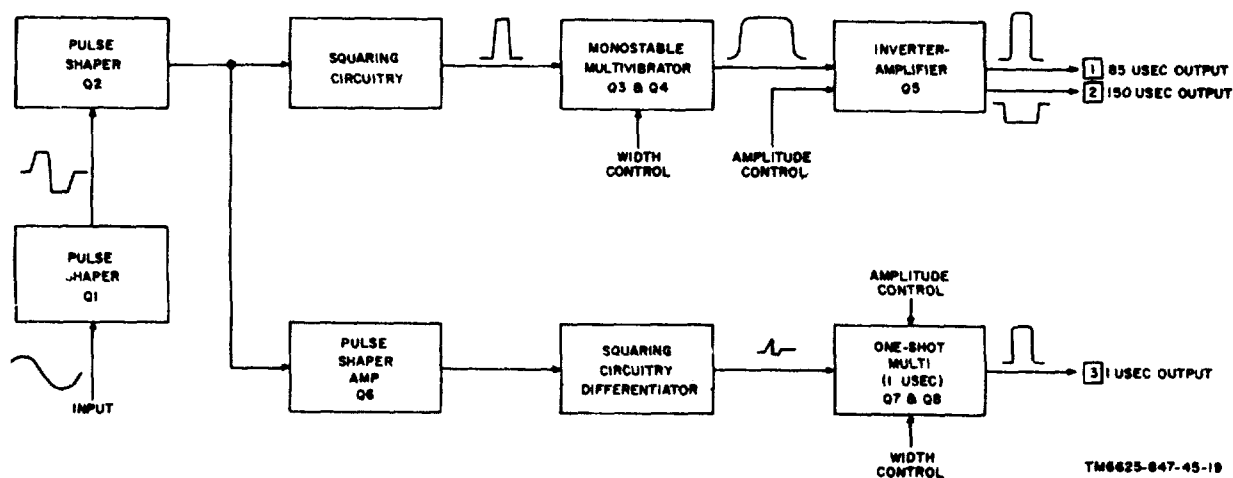

Figure 1-17. Test set pulse generator assembly block diagram.
- (1) *Troubleshooting chart.* The troubleshooting charts, paragraphs 2-18 through 2-23, list the symptoms of common troubles occurring within the modules and, subassemblies of the SM-442A/GRC and give (or references) corrective measures. The troubleshooting chart are to be used in conjunction with the performance tests given in paragraphs 4-1 through 4-12 as described in paragraph 2-4. The charts do not list all the troubles that may occur. The repairman should use these charts as a guide in analyzing symptoms that are not listed.
- (2) *Stage gain charts.* The stage gain charts (paras 2-14 and 2-16) will help in locating difficult troubles that produce weak signals in amplifier modules AR1 through AR5 and IF amplifier module AI.
- (3) *Wave shapes.* When troubleshooting the pulse generator module, compare the wave shapes in figure 1-17 with those obtained using the procedures in paragraph 2-10 and troubleshooting chart 2-19
Connect Tee Connector UG-274B/U to the output of Generator, Signal AN/URM-127. Connect one side of UG-274B/U to connector J1 on pulse generator assembly A1A1 and the other side to the trigger input on Oscilloscope AN/USM-140(*). Connect 20 volts dc between terminals 3 and 4 (ground) and -30 volts dc between terminals 14 and 4 (ground), using the test set as a power source (para. 2-5). Adjust the output of the AN/URM-127 to 500 cycles per second (cps) at 2 volts peak to peak. Connect the AN/USM-140(*) probe as directed in troubleshooting chart 2-19, and compare the waveforms obtained with those illustrated in figure 1-17.